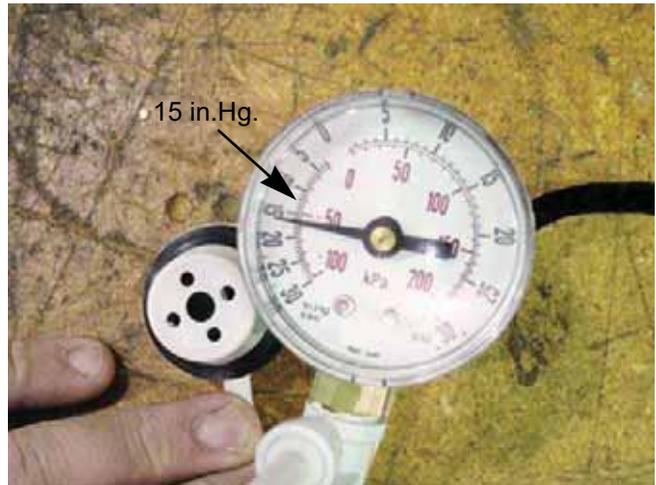

Figure 4.20
4. Apply a vacuum to the roll over valve. See Figure 4.20.